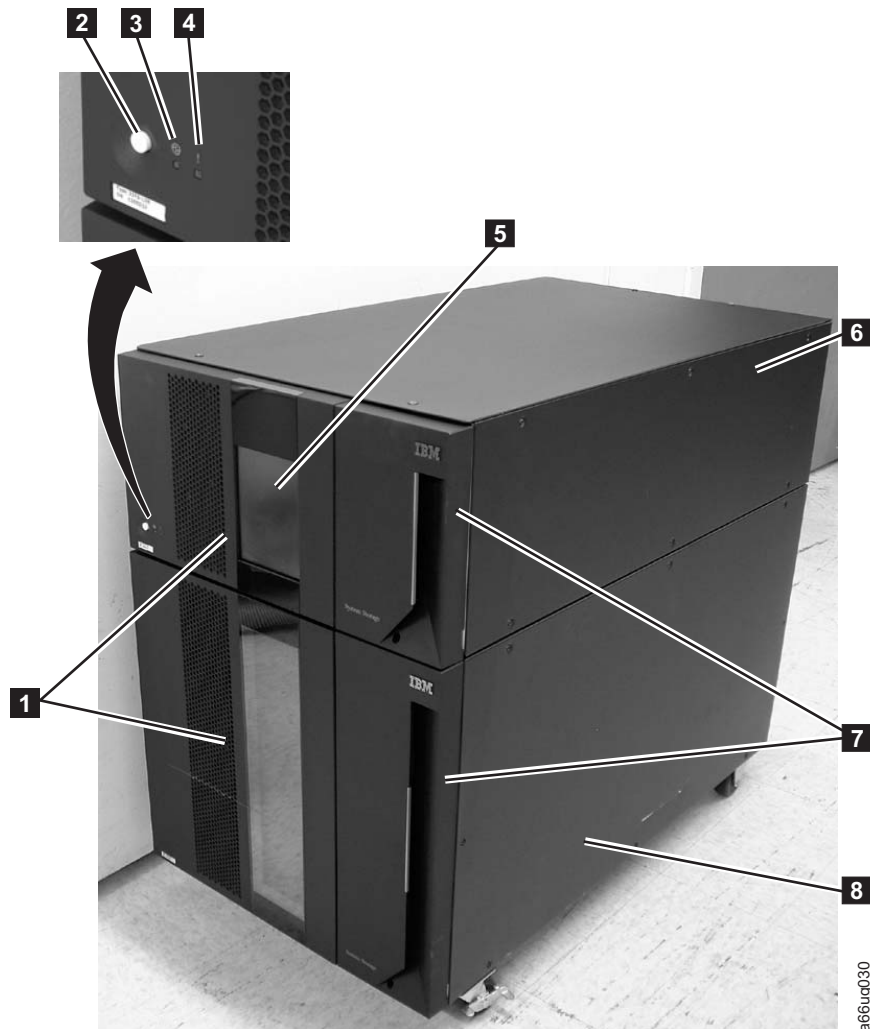

Figure 1-1. Front panel of a 14U library
All library configurations include the control module (**6** in Figure 1-1). The control module contains the robotics, library control blade (LCB), and touch screen display. The control module also contains an I/O station, fixed storage slots, tape drives, and at least one power supply.
Each 9U expansion module (**8** in Figure 1-1 on page 1-2) is a supplementary module that is attached to the 5U Control Module. Like the control module, the expansion modules provide fixed storage slots, tape drive slots, and power supply slots. The I/O station in an expansion module can be configured as storage.
I/O Stations (7 in Figure 1-1 on page 1-2) are located on the front panel of the library and enable the importing and exporting of cartridges without interrupting normal library operations. A control module I/O Station has a capacity of six cartridges. A 9U expansion module I/O Station has a capacity of 12 cartridges.
This door is locked by the I/O Station. To open the Access Door (**1** in Figure 1-1 on page 1-2), you must first open the I/O Station.
The Operator Panel (**5** in Figure 1-1 on page 1-2) is the touchscreen display device located on the Access Door of the control module. Library operations and service functions are performed from this screen.
Pressing the Power Button (**2** in Figure 1-1 on page 1-2) on the front panel of a control module turns the Picker and Operator Panel ON or OFF; however, power is still applied to the power supplies. The Power Button is used during library shutdown and to manually reboot the library.
- Green power ON LED (**3** in Figure 1-1 on page 1-2): When lit, this LED indicates that the library power is ON.
- Amber Operator Intervention Alert LED (**4** in Figure 1-1 on page 1-2): When lit, this LED indicates that there is a Library, Drives, or Media Operator Intervention available. To access the Operator Intervention, select **Tools** → **Operator Intervention** from the Operator Panel.